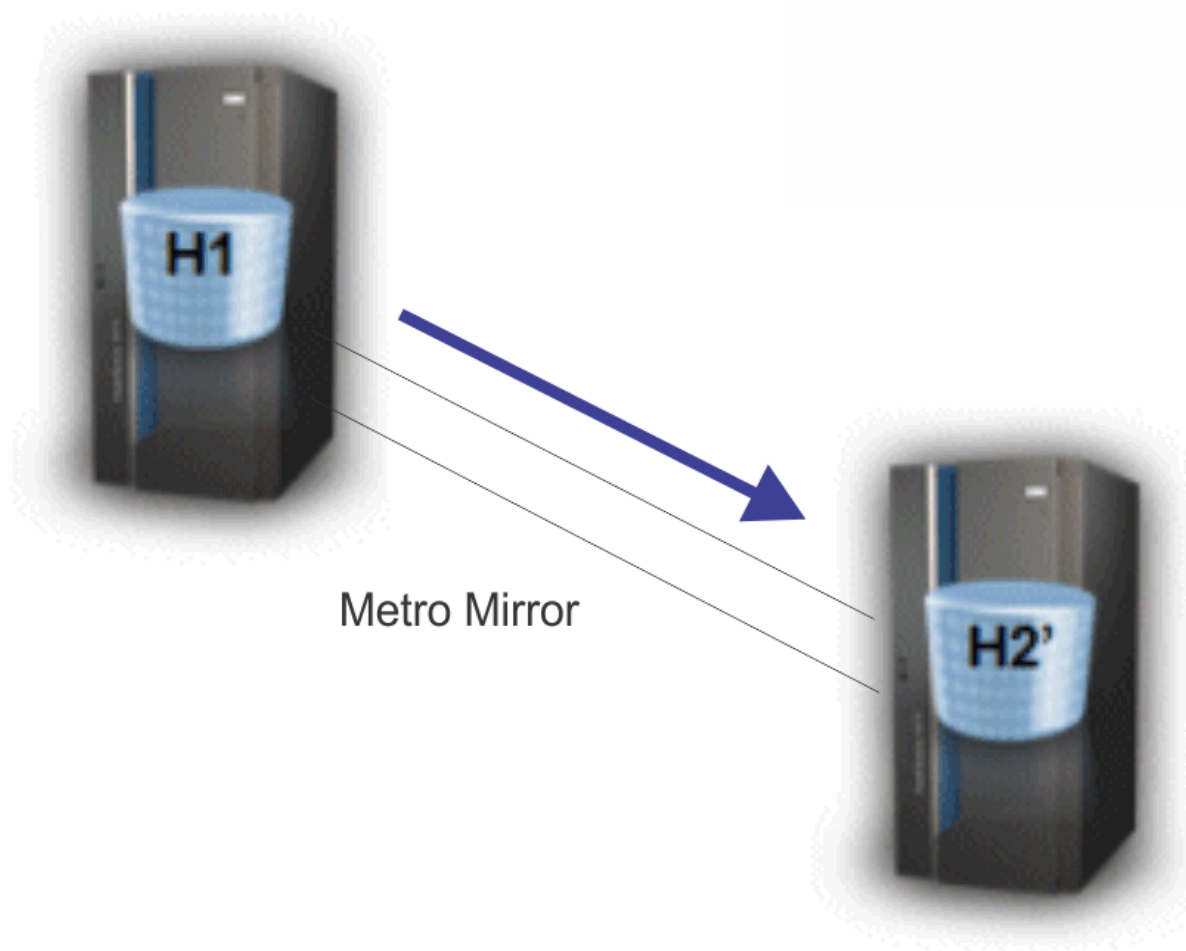

Figure 31. Configuration after Migration
- Figure 31 on page 343 shows the result.